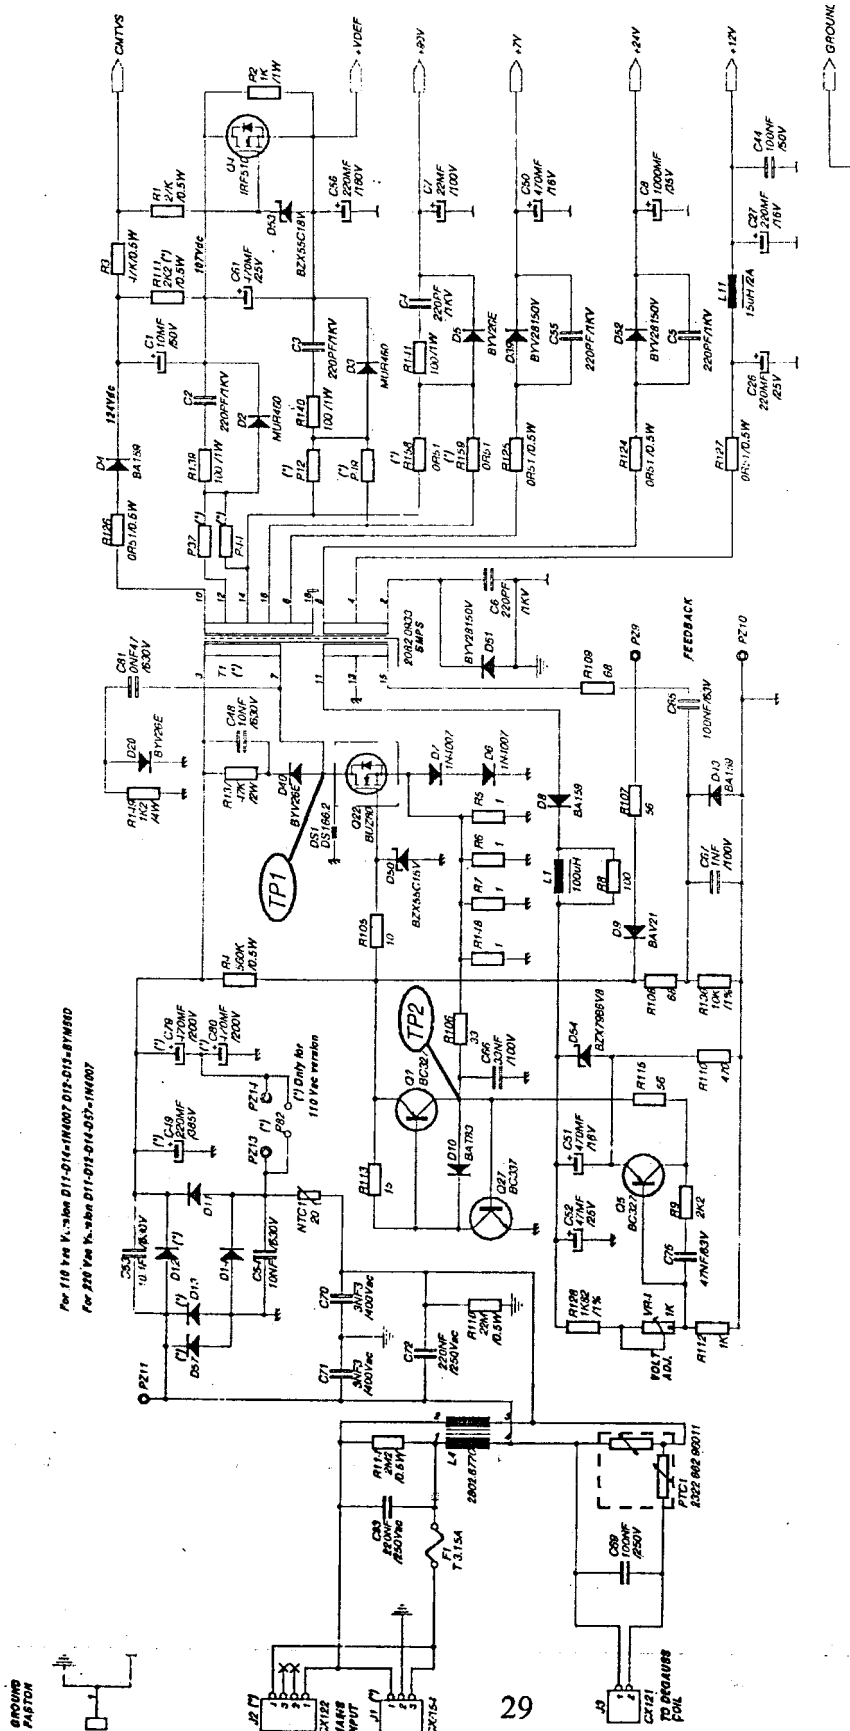

Fig. 16 - Monitor VGA/SVGA (32 - 38 kHz)
POWER SUPPLY (Fig.16)
2. Resistor R124 = 0,51 Ω ½ W (Fig.16).
3. Diode D52 = BYV28 (Fig.16).